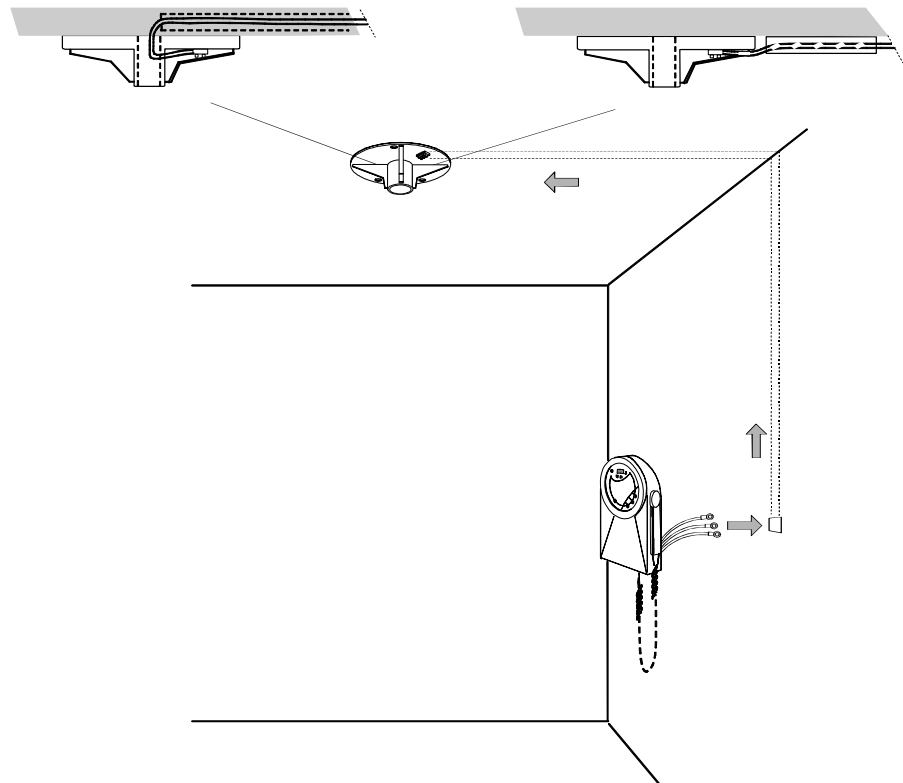

Figure 6-6
3. Fix the ceiling plate (1) to the ceiling using the screws (2).
4. Connect the cables coming from the timer to the terminal board on the ceiling plate (Figure 6-6).